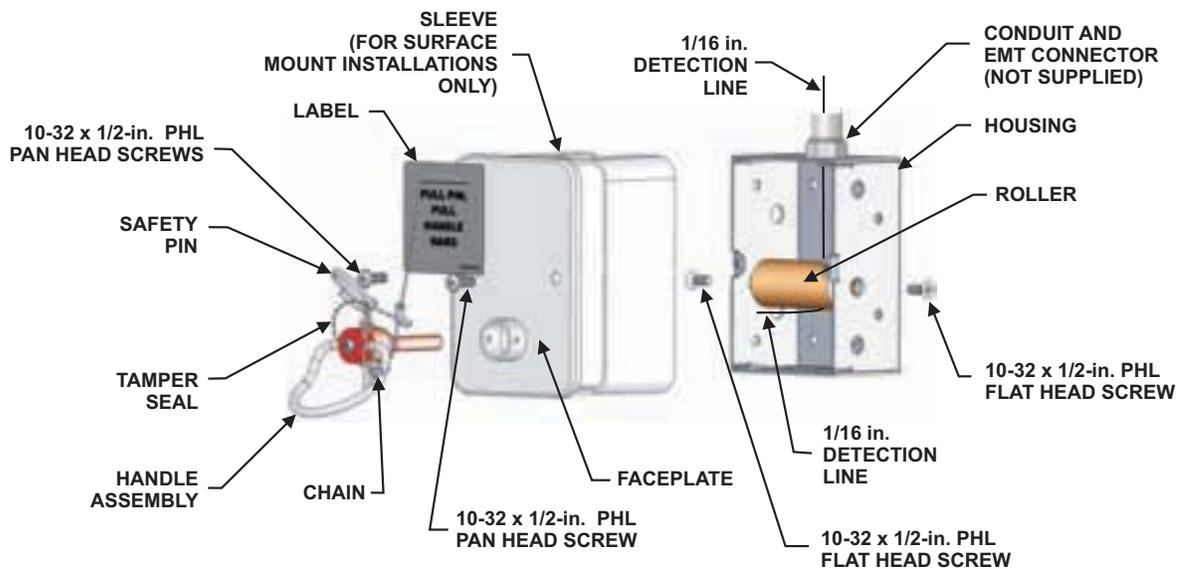
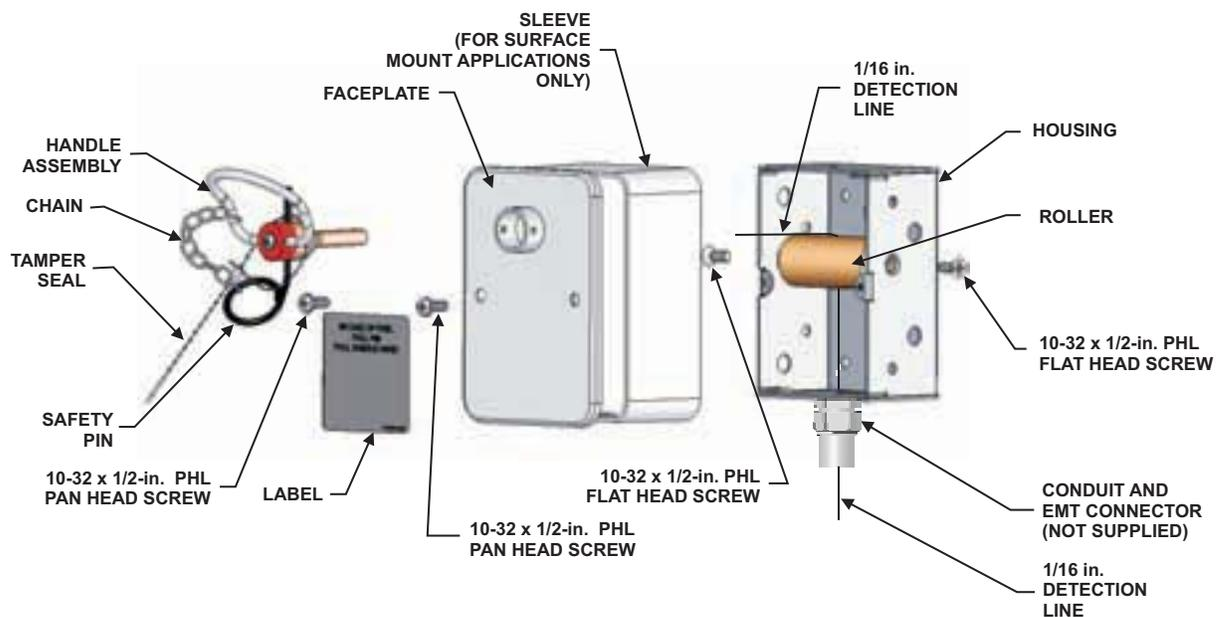

Figure 4-57. Remote Manual Release Pull Station, Pull-to-Trip (EMT/Conduit at Top)
Figure 4-58. Remote Manual Release Pull Station, Pull-to-Trip (EMT/Conduit at Bottom)
4. Install the roller to the housing using the #10-32 x 1/2-inch flat head screws provided. If the EMT/Conduit is at the top, refer to Figure 4-57. Route 1/16-inch (2 mm) diameter stainless steel detection line cable as shown. If the EMT/Conduit is at the bottom, refer to Figure 4-58. Route 1/16-inch (2 mm) diameter stainless steel detection line cable as shown.